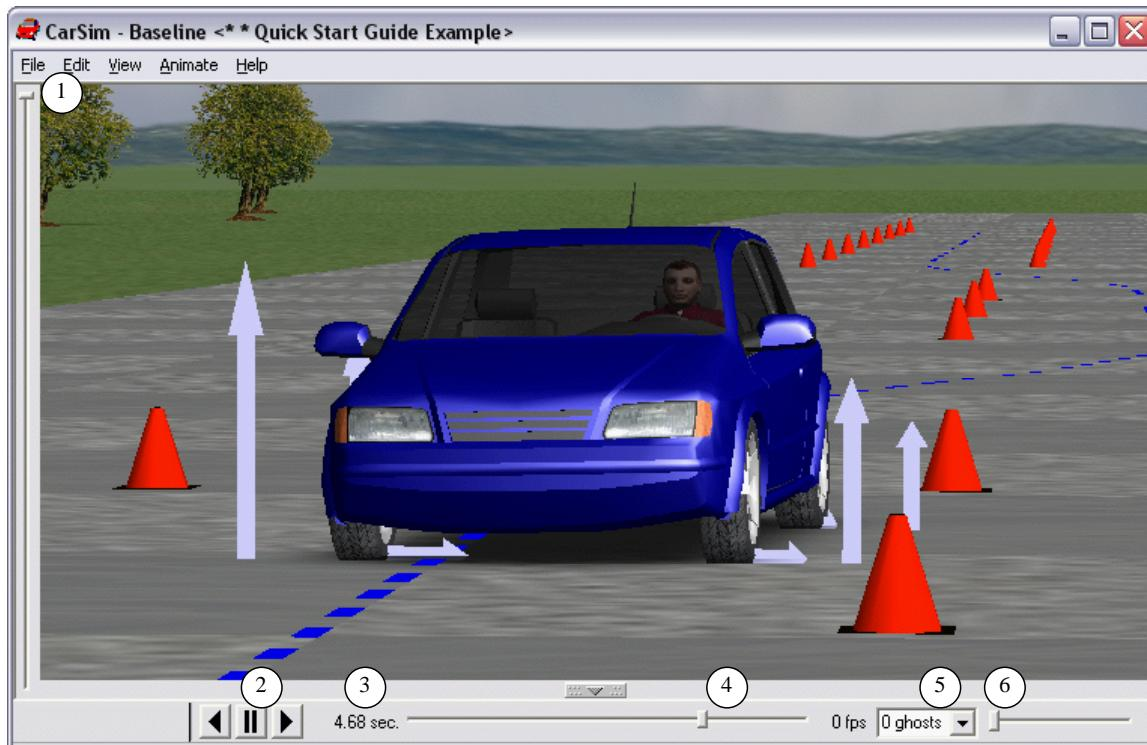

Figure 12. The animator screen.
2. Click the **Animate** button. A new window will appear showing an animation of the run (Figure 12.). For all of the following instructions involving the animator, numbered items refer to this figure.